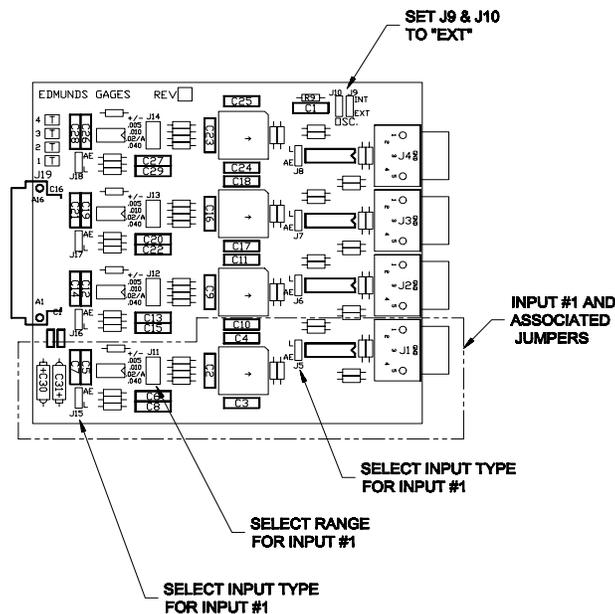

Figure 1
1. For each A/E input that contains a new 31017xx A/E block, place the corresponding *Input Range* jumpers in the .010 position. Jumper assignments are as follows: (**J11** for Input #1), (**J12** for Input #2), (**J13** for Input #3), and (**J14** for Input #4). See Figure 1 below.